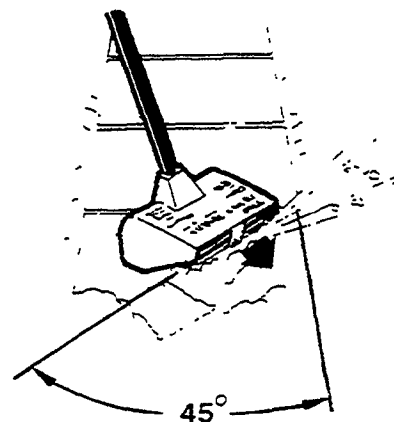

Figure 41
- Push the unit at an angle of approximately 45° to the path you wish to clear until you reach arms length. Lift it out of the snow, and return to your first starting point to make another pass, moving forward with each angular pass (Figure 41).